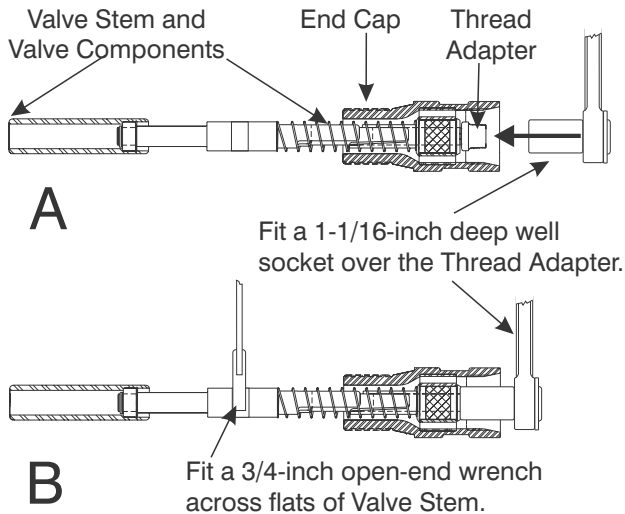

Figure 9-35. Position Wrenches on Thread Adapter and Valve Stem.
6. Fit a 1-1/16-inch deep well socket over the Thread Adapter (3) to hold the adapter in place. Refer to Figure 9-35.